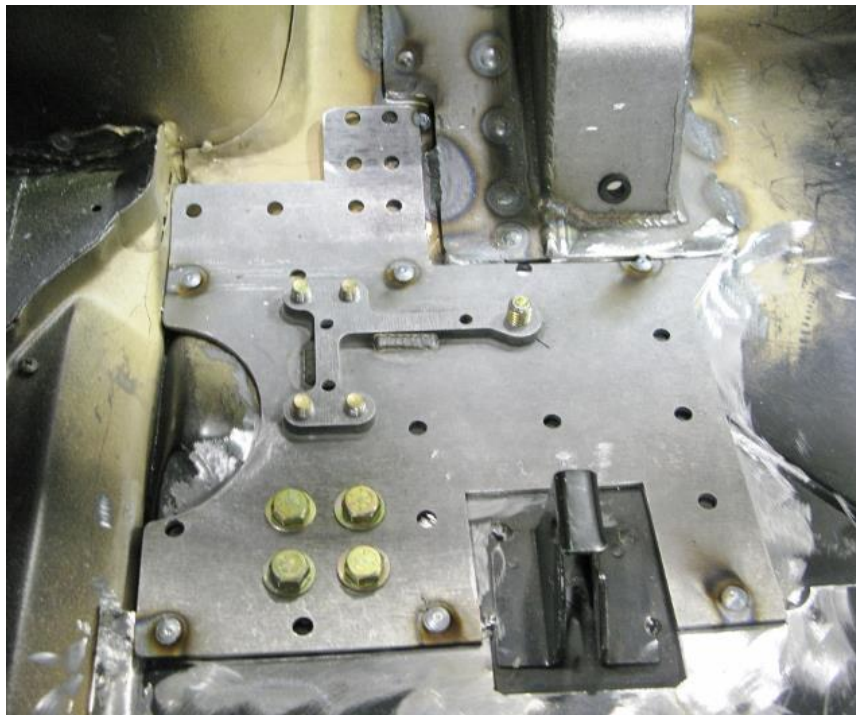

Figure 11 - Tack Weld Doubler Plate
26. Install the provided $3/8$ "-16 x 1" L hex head bolts and the $7/16$ "-14 x 4-1/4" L hex head bolts. Tack weld the doubler plate to the floor pan (Figure 11).